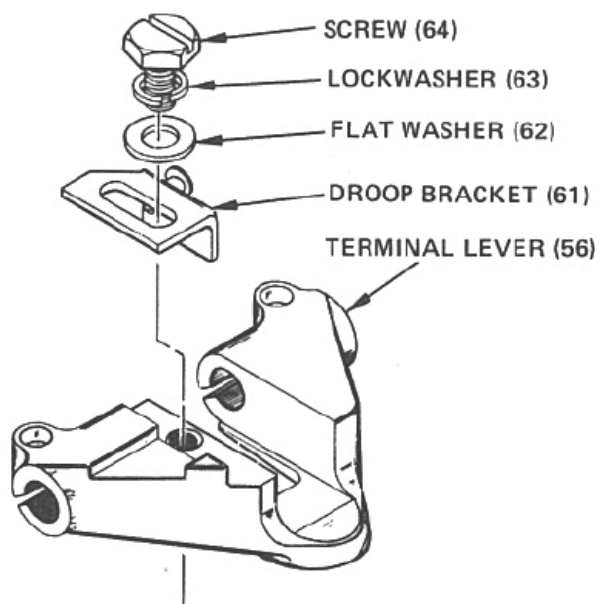

Figure 3-26. Droop Bracket Assembly
21. Assemble droop bracket to terminal lever per Figure 3-26, but do not tighten screw (64).